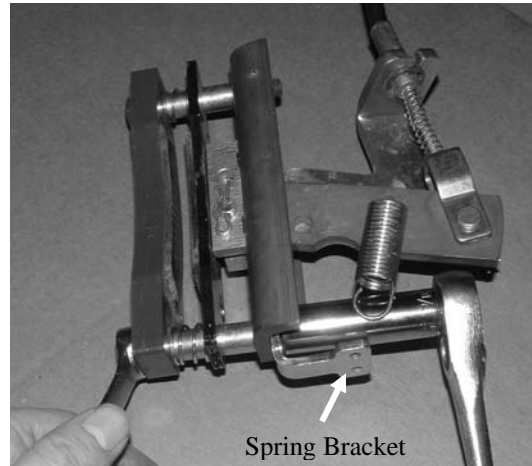

Fig R6 – Caliper re-assembly
6. Bolt brake pad assembly to actuator assembly. Be sure to install spring bracket and washer (washer goes between nut and spring bracket). Torque bolts to 30-35 ft-lbs. (See fig R6)